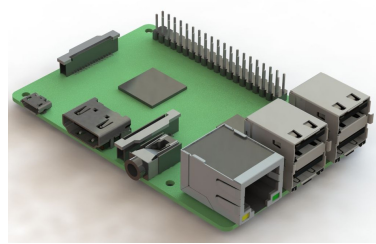

Figure 2: The figure depicts the mini computer Raspberry Pi.
- The upgrade kit includes a mini computer (see Fig. 2) with SD card, RPI connector and patch cable.